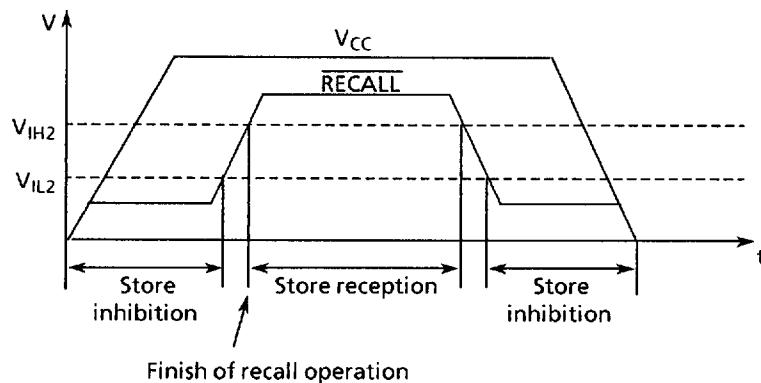

Figure 9 STORE inhibition period and reception period at power ON and OFF
- RECALL goes  $V_{IL2}$  when power turns on or off (see Figure 9).